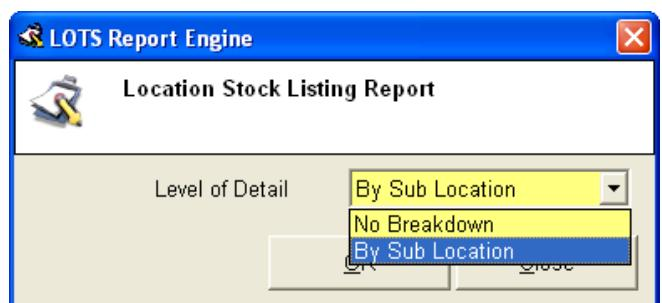

Figure 182
12. Selecting Print Stock Listing will ask you to chose the level of detail (see Figure 182), either: